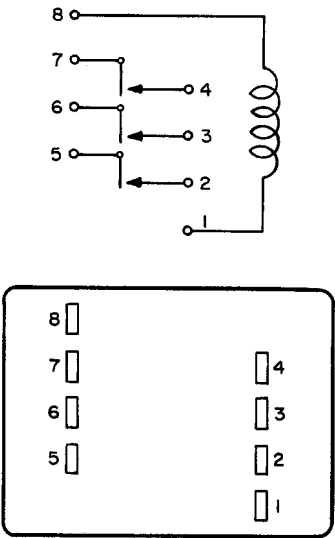

Fig. 71 – Winding and Spring Terminal Numbering — 311-Type Relay
2.79 As viewed from the rear, the winding and spring terminals are designated as shown in Fig. 71 and 72.